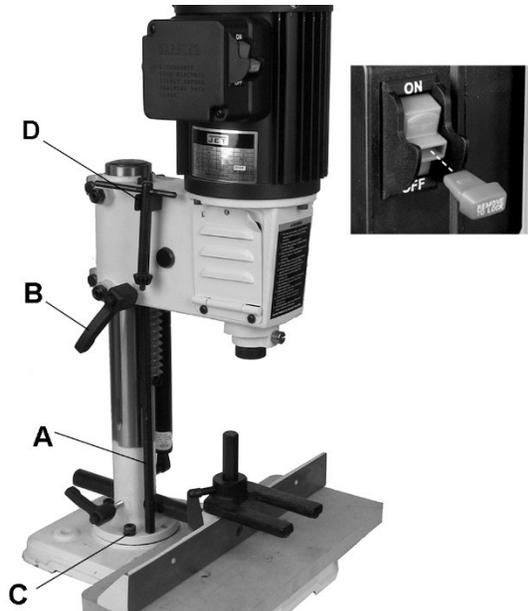

Figure 10-1
The switch (inset photo, Figure 10-1) has a safety key that, when pulled out, allows the switch to be locked in OFF position. The key must be reinserted to start machine.
The depth stop rod (A, Figure 10-1) is used to limit the depth of the chisel cut. Loosen handle (B, Figure 10-1) and lower head until bottom of chisel is at required depth. Lower depth stop rod until it is at rest against the base. Re-tighten handle (B).
1. Using a 4mm hex wrench, remove *four* screws, lock washers and flat washers (C, Figure 10-1)
**Note:** Only one screw is visible in Figure 10-1.
Store chuck key by pushing into holder (D, Figure 10-1).